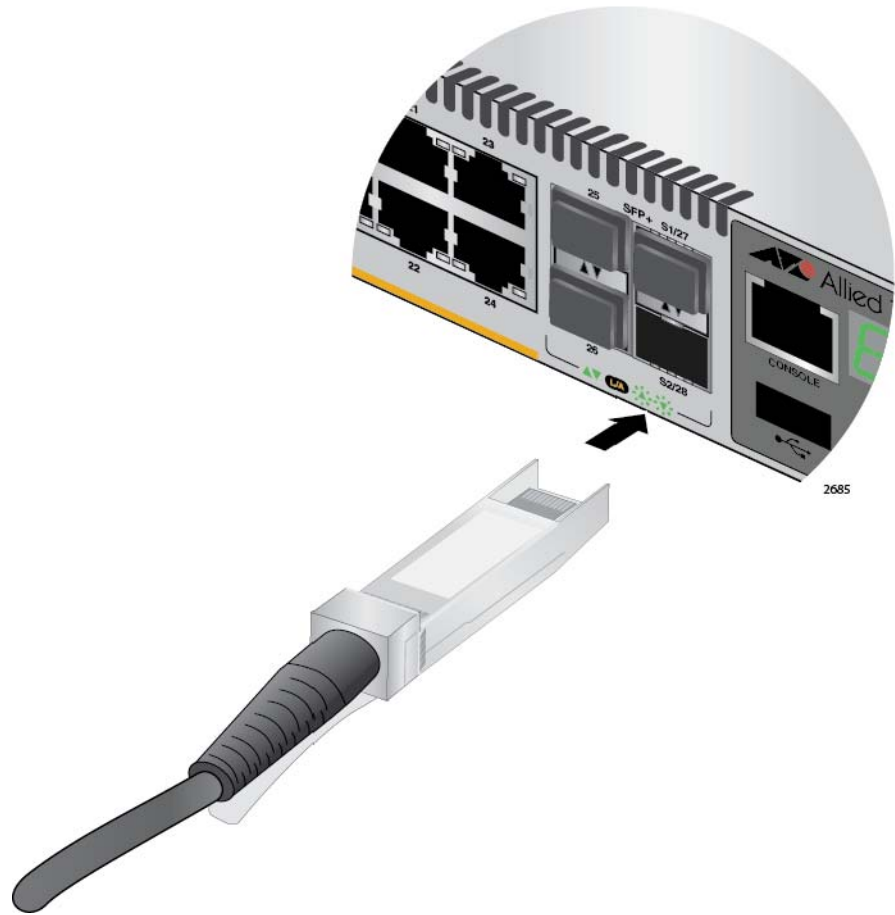

Figure 33. Installing the AT-StackXS/1.0 Transceiver in Slot S2
7. Position the transceiver with the release tab on the bottom and slide it into the slot until it clicks into place, as shown in Figure 33 on page 74.